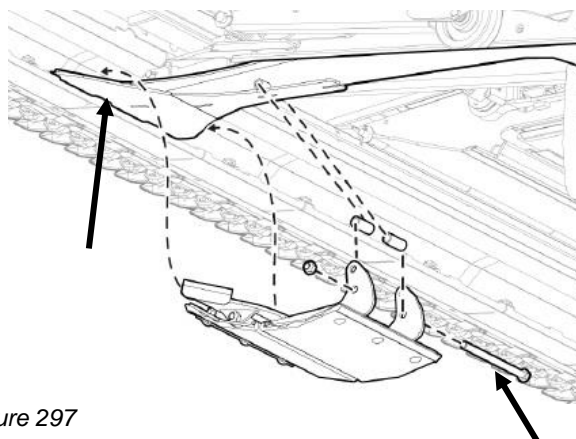

Figure 297
1. Then secure the skid shoe on the rear using a 1/2"X5.5" bolt. Use a spacer between the skid shoe and the drive paddle to fill the gap between the mounting brackets and the strut. Figure 297